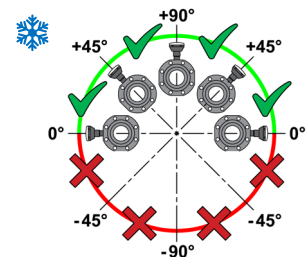

Fig.15
- **Cooling or mixed applications:** the flow sensor can be oriented with inclinations between 0° and +90° (Fig.15).